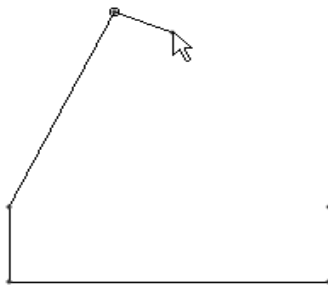

Figure 2-22 Partial sketch with left inclined line
- Draw lines by using the **Line Chain** tool, refer to Figures 2-22 and 2-23.
8. Move the cursor to size the line and specify the endpoint of the left inclined line, as shown in Figure 2-22.